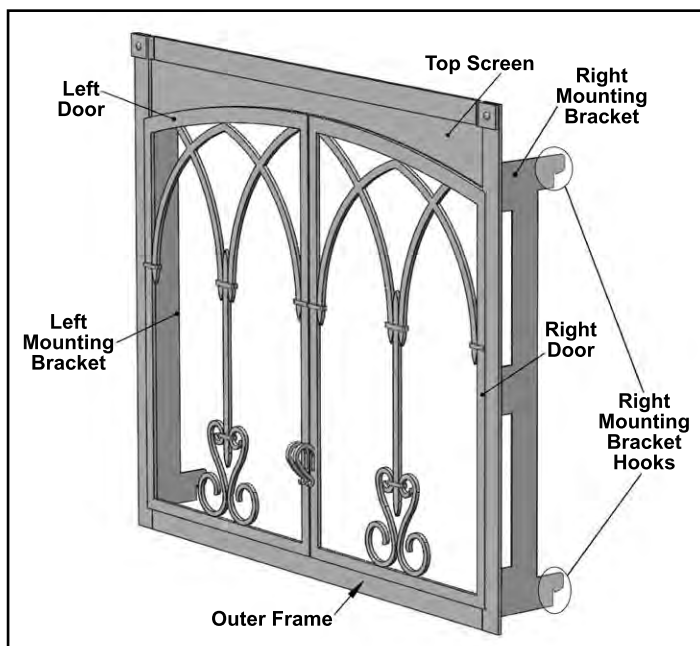

Figure 102: Optional Front Parts.
There are many different styles of optional fronts available for your fireplace. These fireplace fronts hang onto the front of your fireplace using four (4) hooks, one on each corner (refer to Figure 102). These hooks secure the front to the fireplace, providing for easy removal for service access to the fireplace and also to position the front the proper distance away from the glass door and the fireplace facing.
Install the front by lifting it parallel to the fireplace with the mounting bracket hooks pointing towards the fireplace. Slide the hooks all the way into the slots between the Glass Door Frame and the drywall flanges of the fireplace. Pull down on each corner to make sure the hook is engaged with the hanger. Refer to Figures 102 & 103.